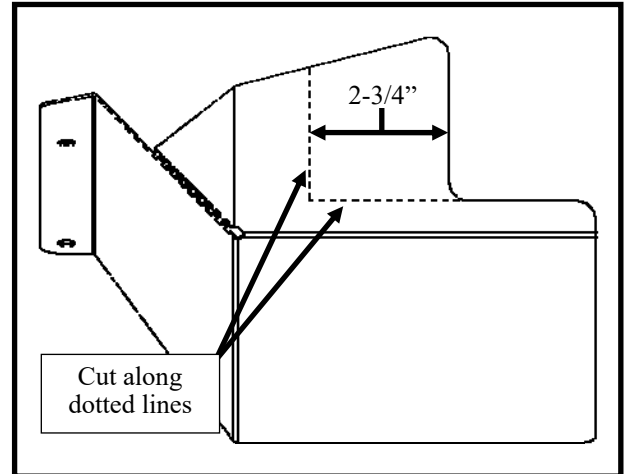

Figure 1.6: Right Hydraulic Cover
- 1.6 Remove the hydraulics cover that is located on the right side of the tractor beneath the floorboard. Mark out according to Figure 1.6 and cut as shown. Touch up the edge with a paint marker and re-install.